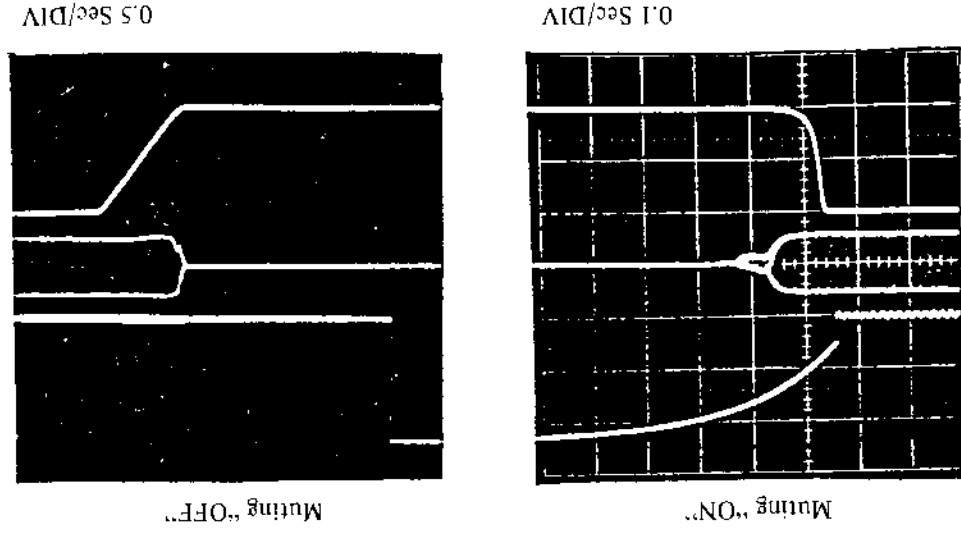

Fig. 63
The signal in the exciter circuit transfers to the base of Q413, grounding the base of Q411 by turning Q413 to ON and then turning Q410 to OFF. It also mutes the exciter, when microphone is used, by turning Q413 to ON. Fig. 63 shows the timing chart for mute signal (upper curve), exciter voltage (center curve) and sound output (lower curve). The points of measurement are (4) of P207 for mute signal, emitter of Q401 for exciter voltage and SP. OUT for sound output.
When muting circuit is turned to ON (left-hand-side in Fig. 63), the voltage of mute signal rises up, muting the exciter first and then (shortly later) the sound output. This delay of approximately 0.1 second is due to C441 and C442 for the countermeasure against unfavorable sound.
When muting circuit is turned to OFF (i.e. when muting is released) as shown on the right-hand-side of Fig. 63, the sound and exciter rise up approximately 2 seconds after the voltage of mute signal drops to "L". This delay is for eliminating the sound irregularity at the time of rise of flywheel.